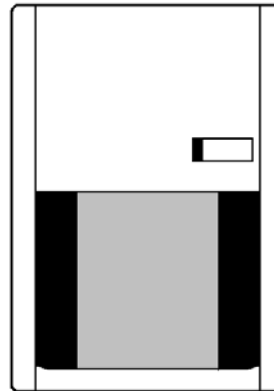

Figure 5.6 PIR Masking vertical example
6. **OPTIONAL:** If the PIR is extending too far outward (to the sides), place stripes of tape vertically on the sides of the PIR lens (see Figure 5.6); this will cover all outward beams producing a narrower coverage area.